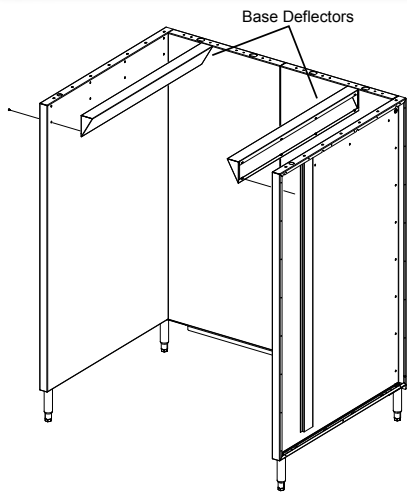

Figure 4
6. Align the two base deflectors (Fig 4) in place and secure with screws (8 per deflector)